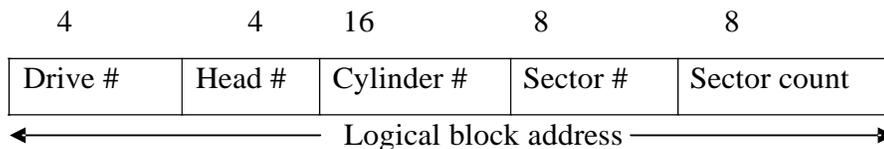

Fig 15. Block address for disk address.
**The operating system interface:-** The operating system specifies the track, sector and surface of the desired block. The disk controller translates that requests to a series of low level disk operations. Fig 15 shows logical block address (LBA) used to communicate requests to the drive controller.